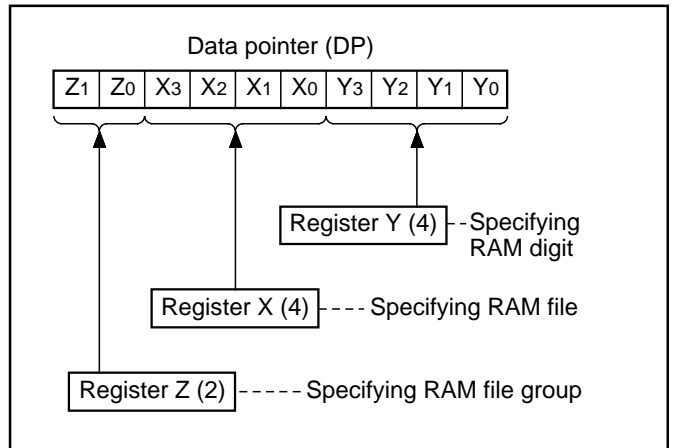

Fig. 8 Data pointer (DP) structure
**(9) Data pointer (DP)**
Data pointer (DP) is used to specify a RAM address and consists of registers Z, X, and Y. Register Z specifies a RAM file group, register X specifies a file, and register Y specifies a RAM digit (Figure 8).